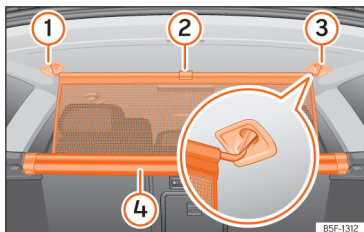

Fig. 184 In the boot: securing the partition net.
- Pull up handle >>> **Fig. 184** ② to remove the net from the casing ④.
- Hook in the net partition on the right or left side ③ (magnified image).
- Hook in the net partition into the housing on the other side ① by pulling the rod.